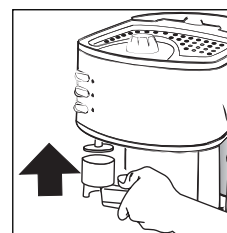

fig. 10
2. Distribute the ground coffee evenly and press it lightly with the coffee tamper (Fig. 10).